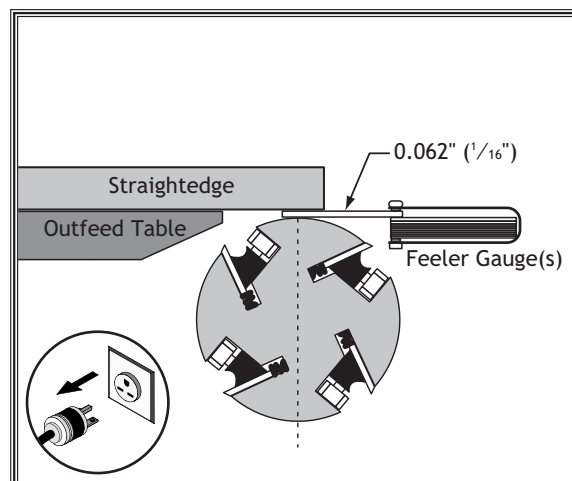

Figure 56. Using feeler gauge(s) to set outfeed table height.
5. Place the straightedge on the outfeed table so it hangs over the cutterhead, and lower the outfeed table until the straightedge is 0.062" ($1/16$ ") above the cutterhead body, as determined by using the feeler gauges (see **Figure 56**).